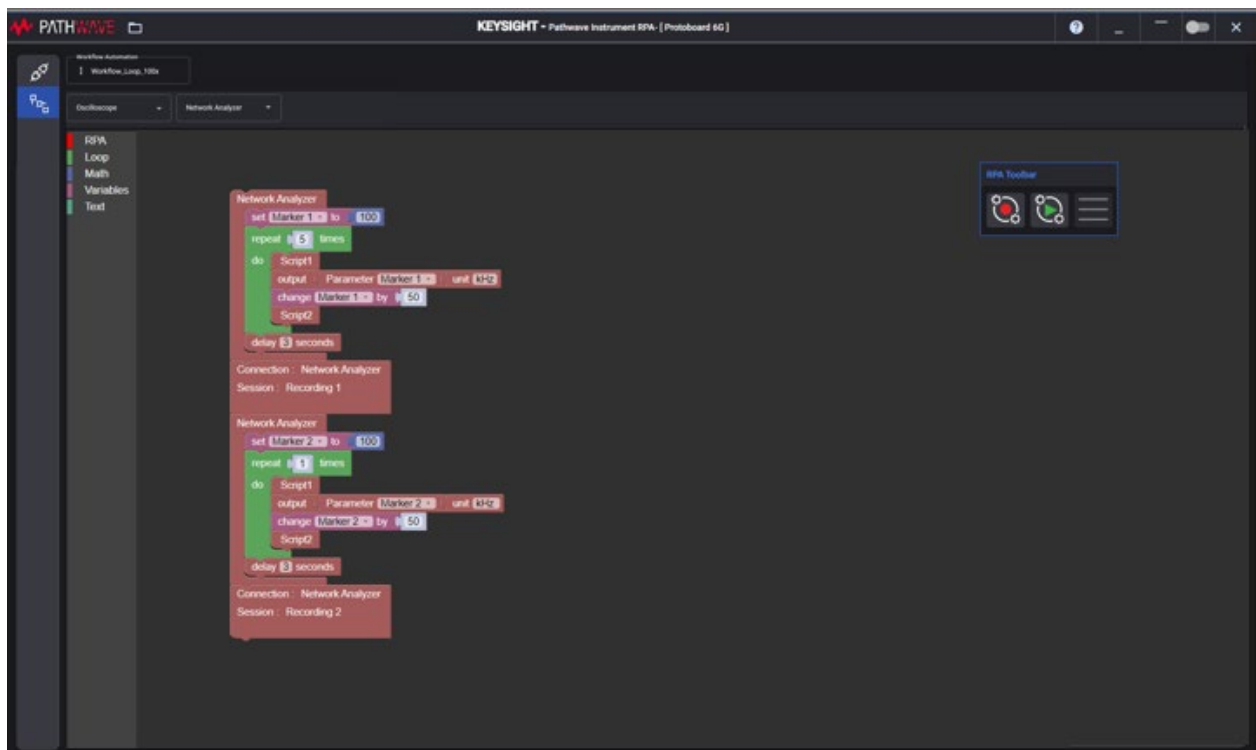

Figure 2. PathWave Instrument RPA Visual Script Editor
- For editing Workflows, PathWave Instrument RPA provides a simple Visual Script Editor (Figure 2). Workflow parameters can be edited directly and re-configured via dragging-and-dropping blocks.